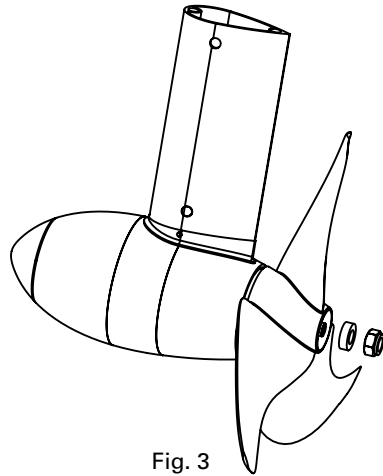

Fig. 3
- Sacrificial anode as a disc (fig. 3): Place the sacrificial anode onto the gear shaft and secure it with one of the self-locking nuts you removed during dismantling.